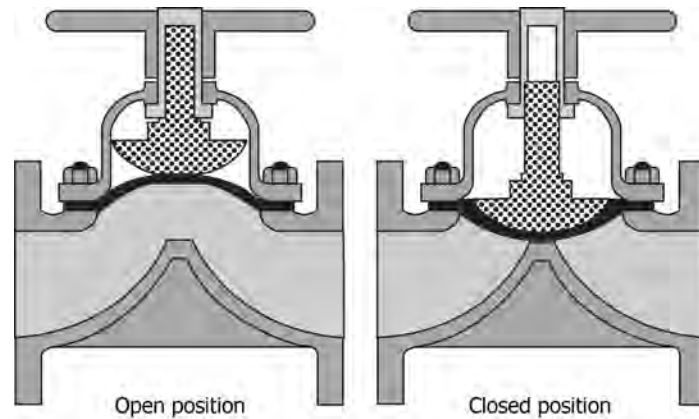

FIGURE 3.9 Diaphragm valve.
- Figure 3.9 illustrates a typical diaphragm valve.